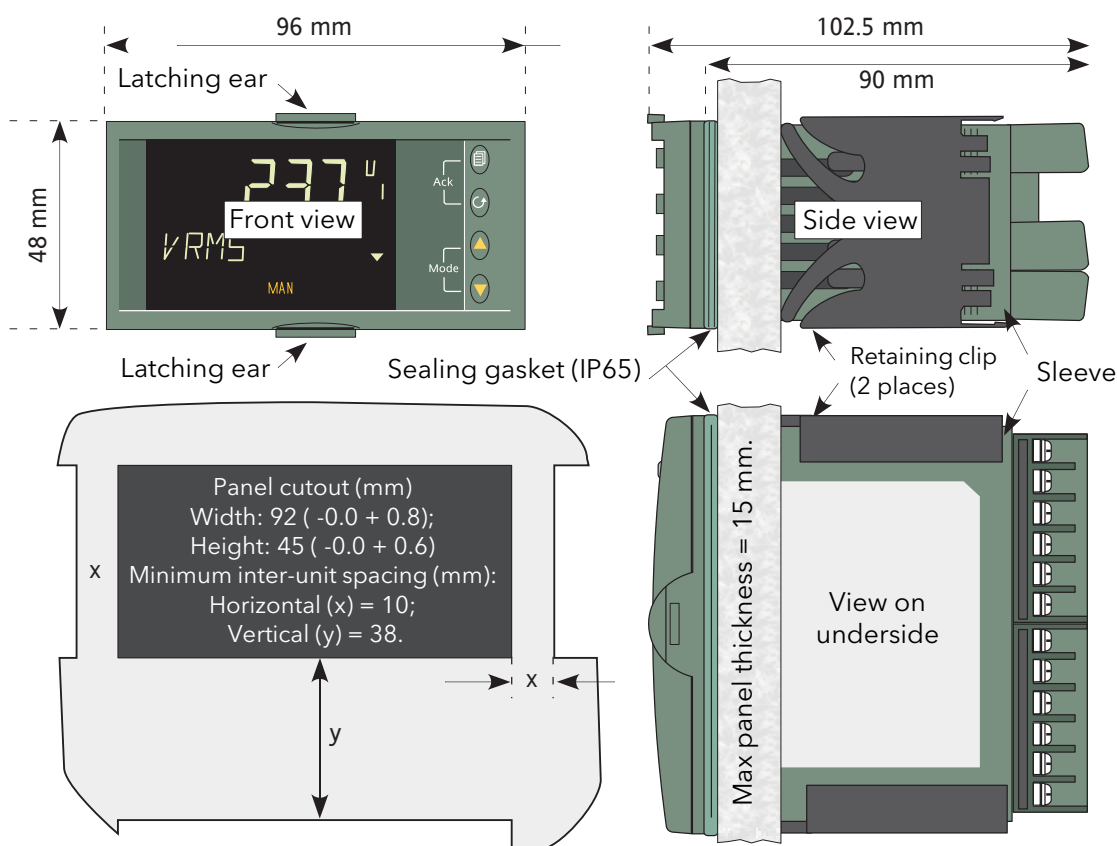

Figure A2 Installation dimensions drawing
1. An aperture with dimensions as shown in figure A2 should be made in the panel.